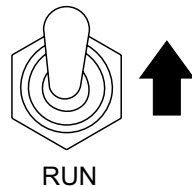

Figure 43. Engine Speed Control Switch Run Position
- Place the engine speed control switch (Figure 43) in the **RUN** position (up).